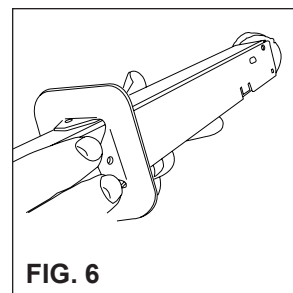

FIG. 6
4. Insert pathway through wall (with lid gauge marks facing upwards) using previously installed wall plate and gasket as a stop (See Fig. 6).